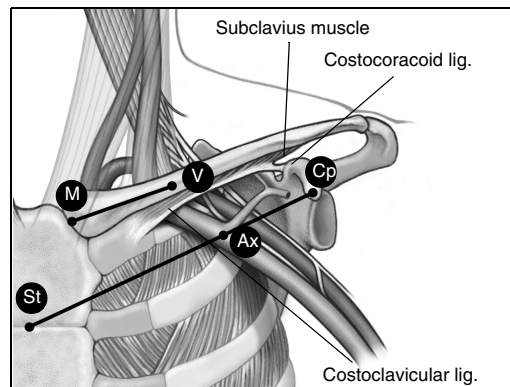

Figure 9. Landmarks identify the entry point for a percutaneous subclavian venipuncture.
1. Referring to Figure 9, identify points St (sternal angle) and Cp (coracoid process).